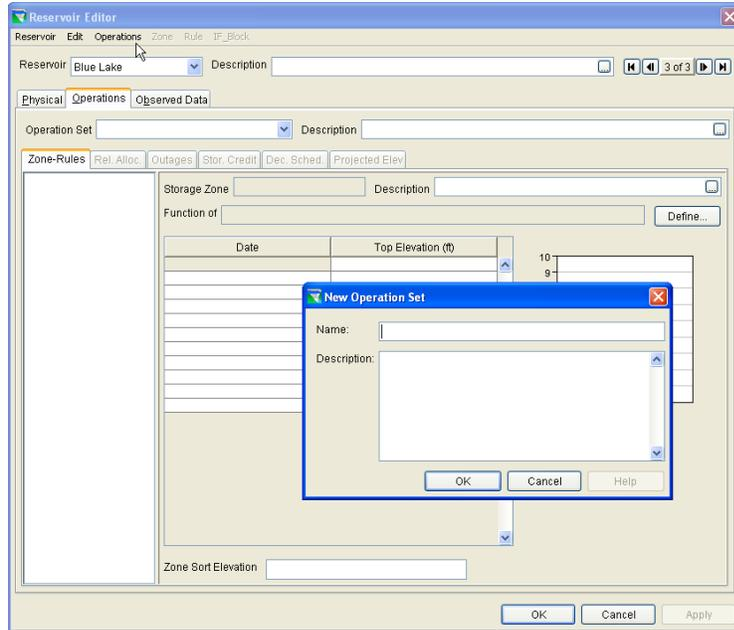

Figure 23. New Operation Set
b. When the **Operations** tab is initially chosen, a screen similar to Figure 23 will appear. A new operation data set must be created before operations data can be entered [Section 11.2.1].
- **Create an Operation Set.** Select **New** from the **Operations** menu and give the new operation set a name (as illustrated in Figure 23). An **Operation Set** is the operation plan or scheme upon which a reservoir bases its decisions regarding how much water to release at each time step of a simulation run [Section 11.2].